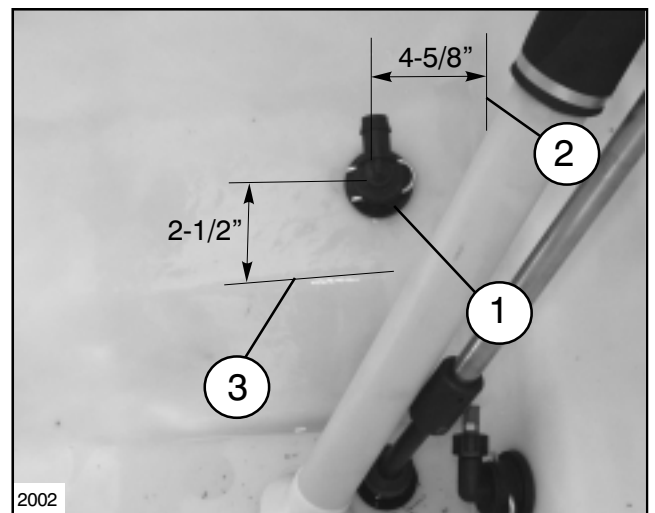

FIG. 2
5. Use a 2-1/16 Hole Saw to cut a Hole in the bottom of the tank. See FIG 2, page 1.
6. Install the Bulkhead fitting and seal (into the new hole) from the inside of the tank, securing with the Nut on the outside. See FIG 2, page 1.